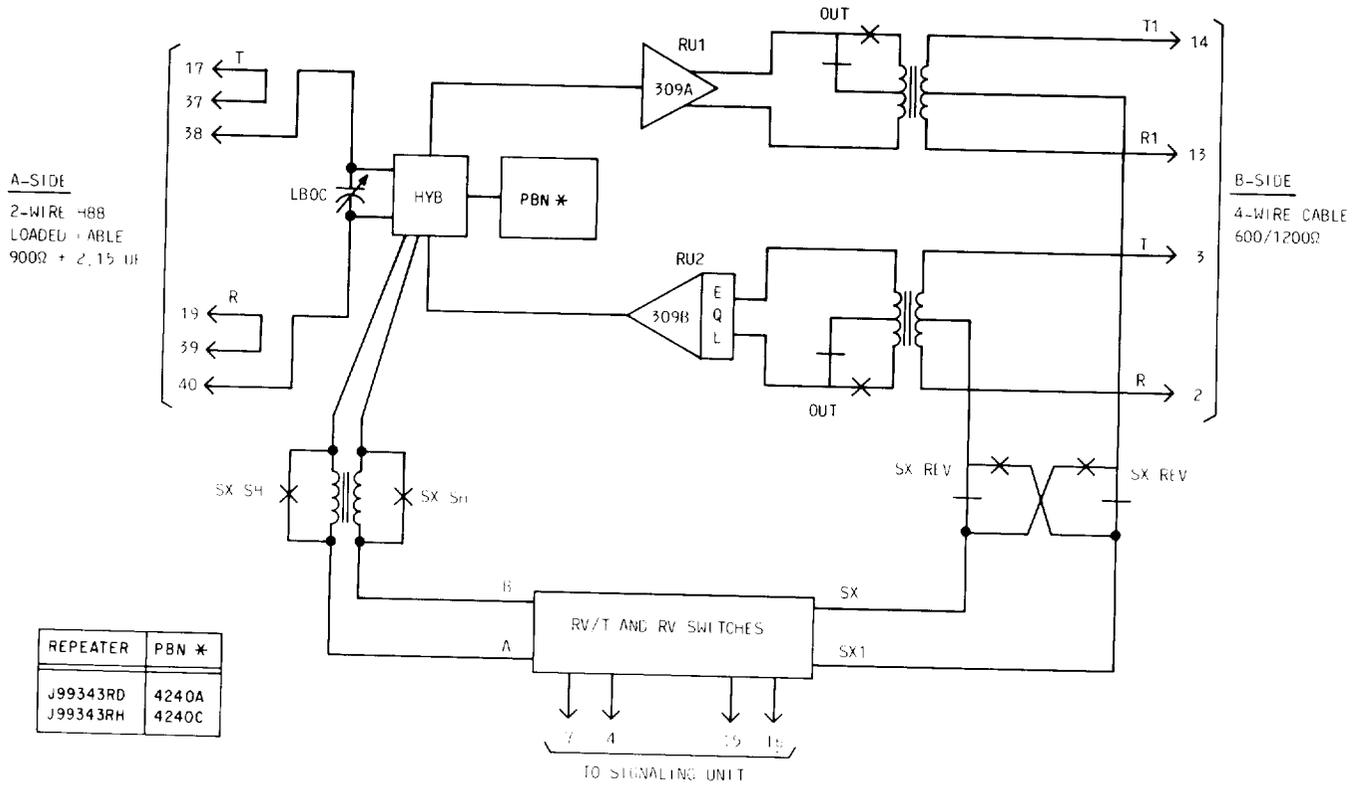
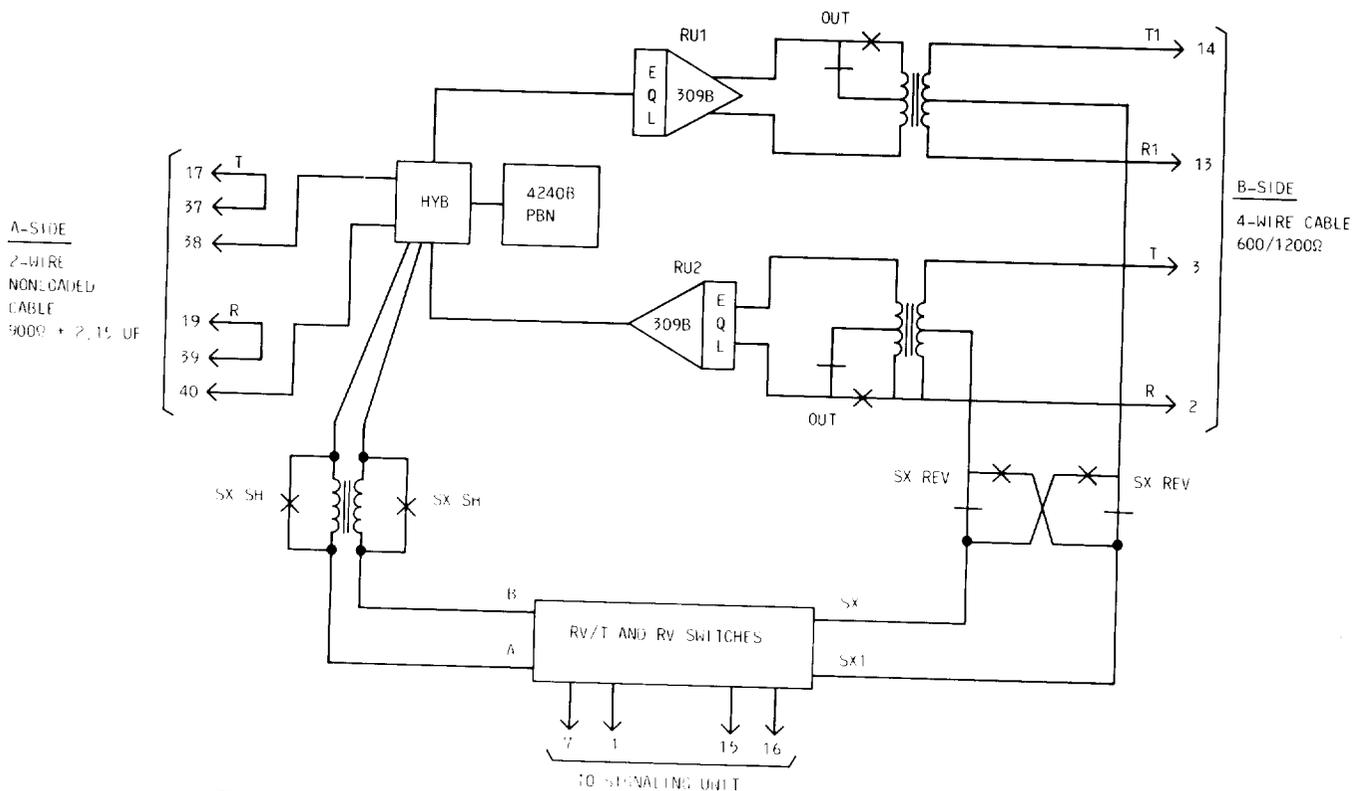
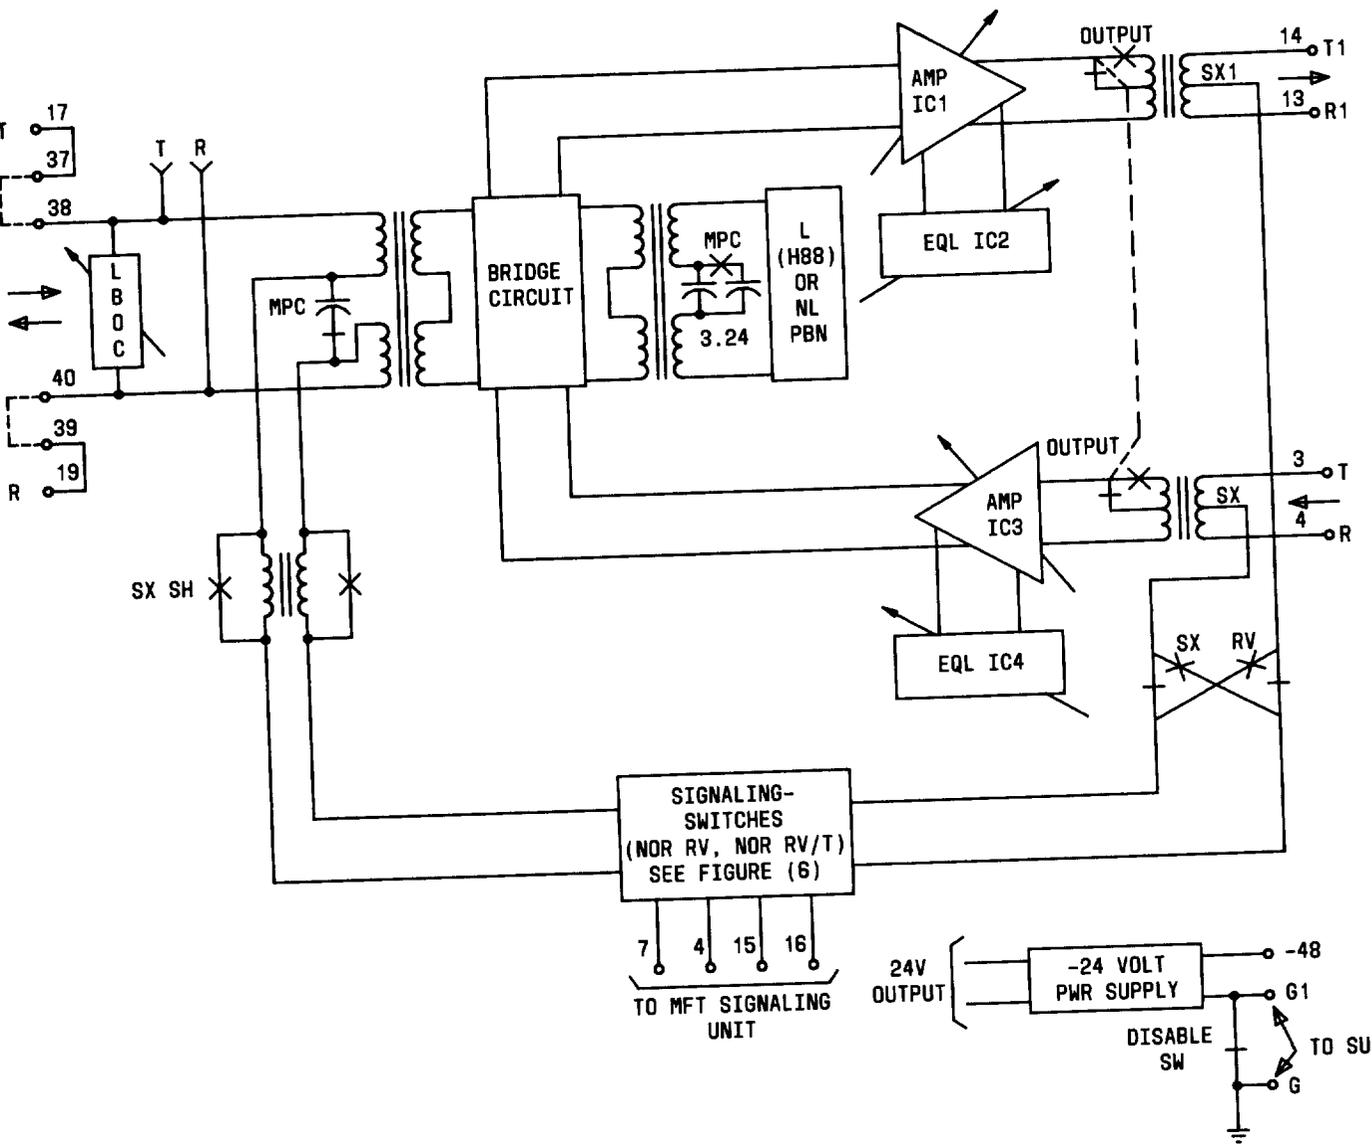

Fig. 4—Block Diagram of the 2-4 Intermediate Repeater (L), J99343RD (MD), RH (MD)
Fig. 5—Block Diagram of the 2-4 Intermediate Repeater (NL), J99343RE
Fig. 6—Block Diagram of the 2-4 Intermediate Repeater (NL), J99343RK
1.06 The J99343RD and RH repeaters provide A-side 2-wire circuitry to interface standard gauges of 2-wire H-88 loaded facilities (Fig. 4). The J99343RD unit is MD and replaced by J99343RH, which is also compatible with 25-gauge MAT cable. The J99343RE 2-4 repeater (Fig. 5) is compatible with all standard gauges (including MAT) of 2-wire nonloaded cable facilities. The J99343RK is the latest 2-4 repeater that is available. This repeater provides selectable circuitry for compatibility with both loaded and nonloaded cable at the 2-wire and 4-wire interface (Fig. 6). The J99343RK replaces both the J99343RH (loaded) and J99343RE (nonloaded) repeaters in application.